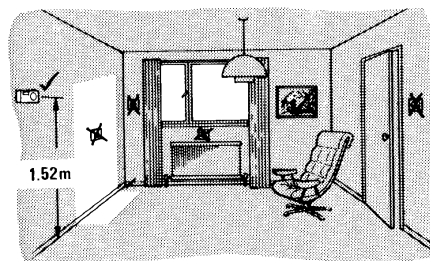

Fig.4
1. Select location for sensor which is representative of the space to be controlled and where it will be readily affected by changes in the general space temperature (See Fig.4). When used as remote setting unit, select location which is most convenient for room occupant.